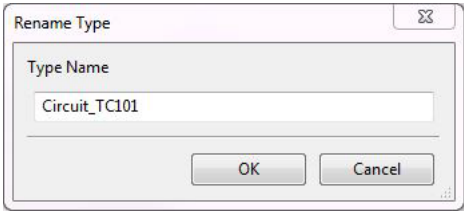

Figure 33: Plant Editor - Rename Type
2. Rename a type: Select the type for the list box on the left side of the page and click the “Rename Type” button. In the new window input the new name for the type and click “OK” (Figure 33).